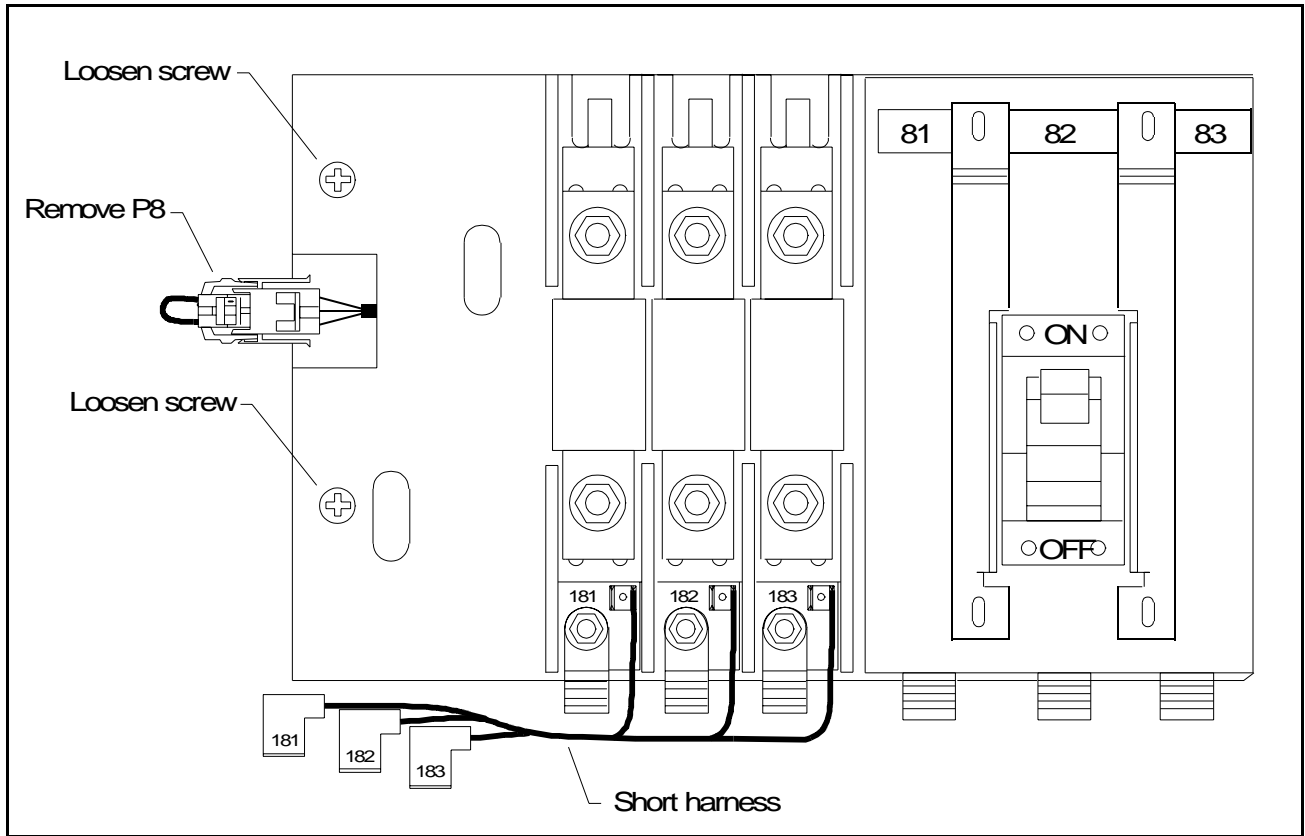

Figure 2 – Mounting the Starter on the Drive Line-Fuse Panel (1.5 HP to 30 HP @ 230 VAC / 3 HP to 60 HP @ 460 VAC)
- Step 4. Loosen the two screws securing the left side of the line fuse/terminal panel to the drive. See figure 2, 3, 4, or 6.
- Step 7. Tighten the screws (torque to 55 in-lb/6.21 Nm) to secure the starter to the drive. See figure 2, 3, 4, or 6.
- Step 1. Plug connector P8 into the drive's mating plug (P8). See figure 2, 3, 4, or 6. For drives with two starters, plug connectors P8A and P8B into their respective mating plugs.
- Step 2. **For 230 VAC drives rated through 30 HP and 460 VAC drives rated through 60 HP:** Connect the spade receptacles attached to the blower motor starter's 181, 182, and 183 fuses to the spade tabs on A-C input fuses 181, 182, and 183, respectively. See figure 2.